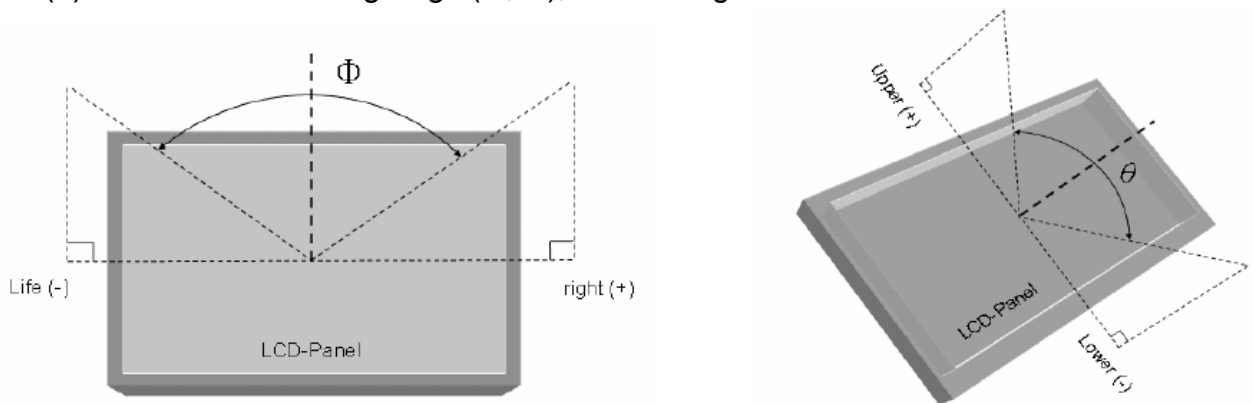

Fig9-2 Definition of Viewing Angle
- (4) Definition of Viewing Angle(Θ , Φ), refer to Fig9-2 as below :